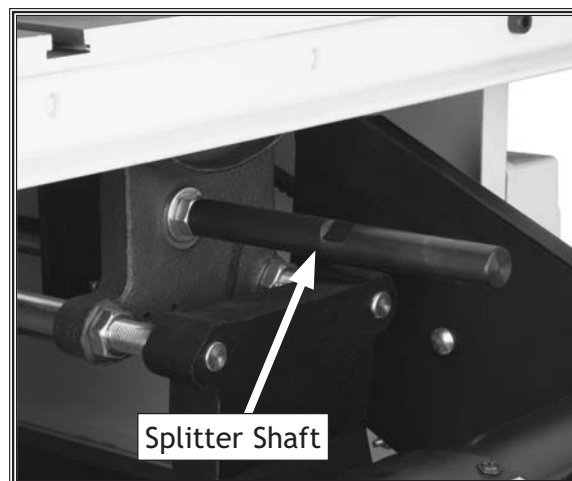

Figure 34. Splitter shaft installed.
1. Secure the shaft into the threaded hole above the motor mount with the 1/2" washer and hex nut as shown in **Figure 34**.